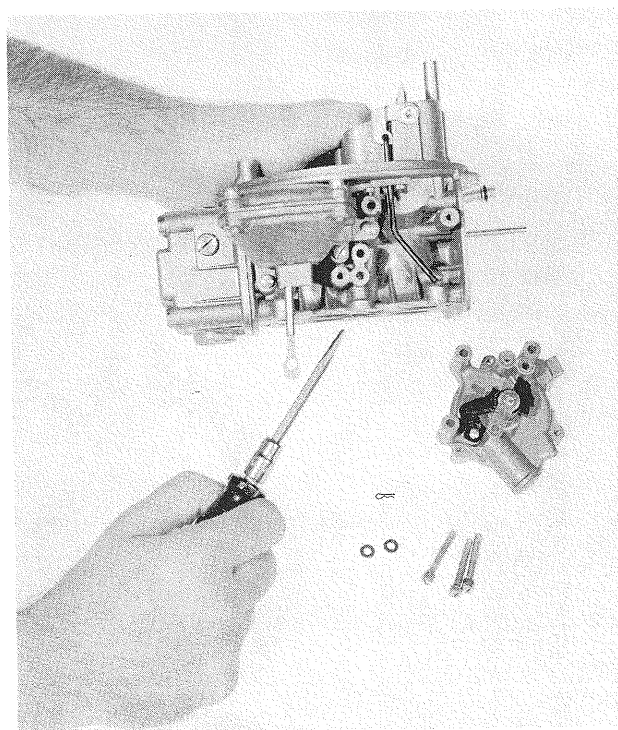

FIG. 25 Removal or Installation of Integral Automatic Choke
1. Remove integral choke assembly and fast idle cam (if used) (Figure 25).